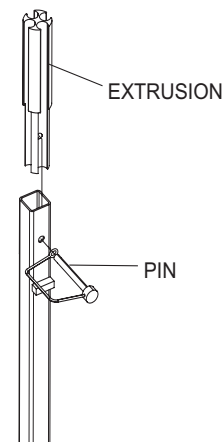

Figure 11. Extrusion Installation
5. Remove the pin near the top of the mast and insert the extrusion on the top of the mast. Reinsert the pin to hold extrusion in place. See Figure 11.